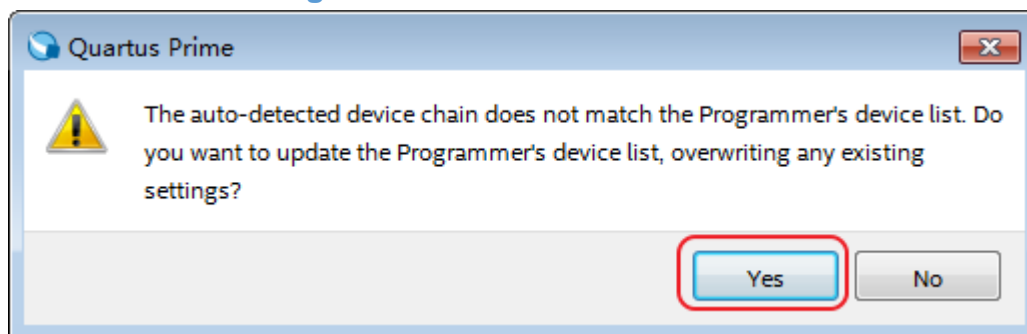

Figure 4-6 Updating the device
- You will see a CFI_1Gb Flash detected on the JTAG chain. Press Yes to update the device list as shown in Figure 4-6.